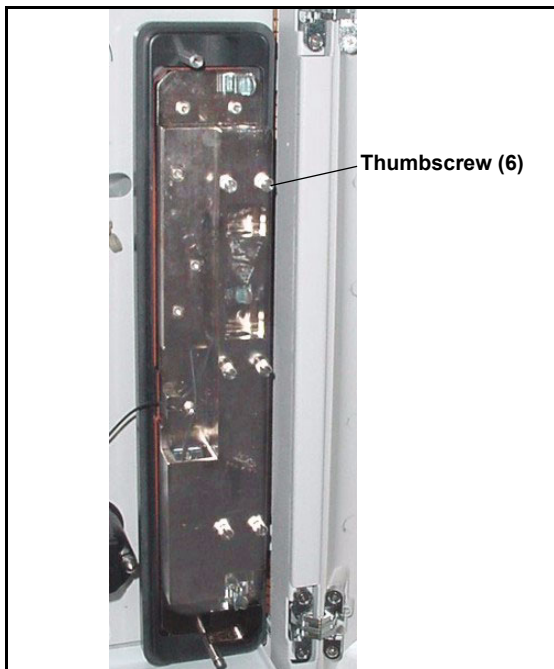

Figure B-18. ICS-1000 Column Heater Cover Removed
4. Unscrew the six thumbscrews on the top metal plate (see Figure B-18) and remove the plate.